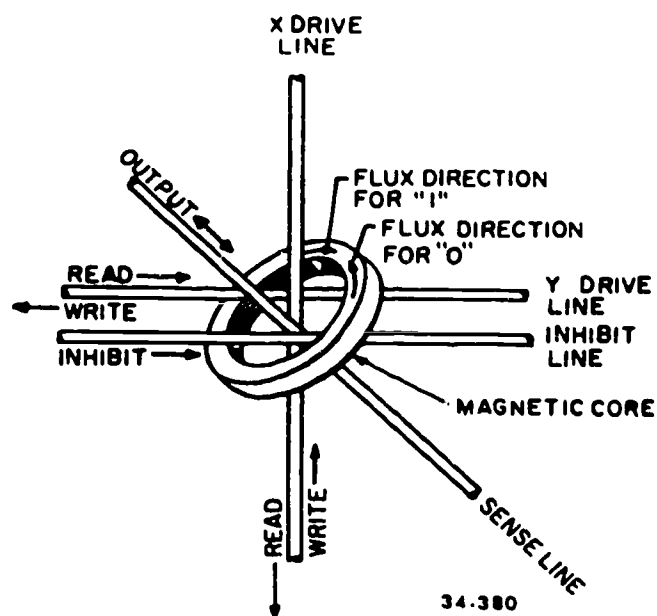
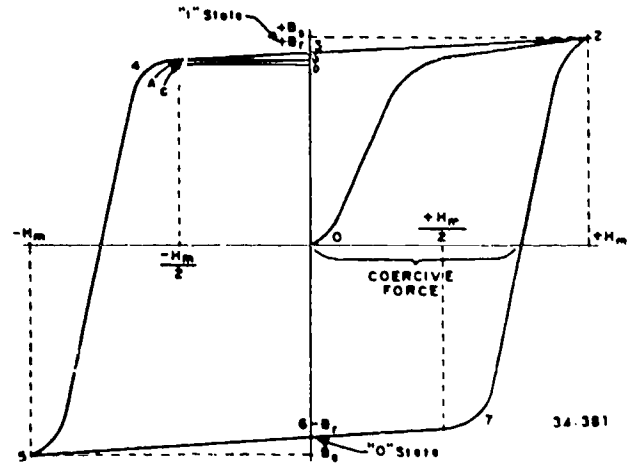
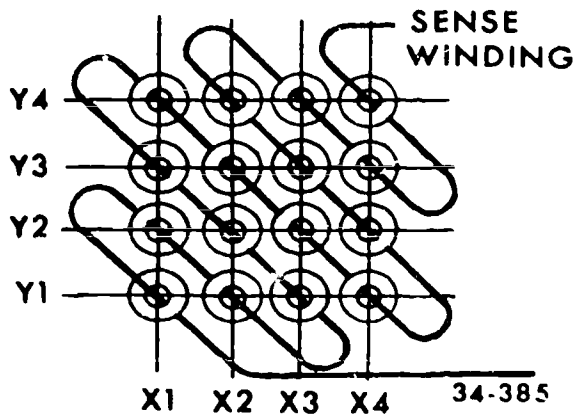

Figure 3-3. Magnetic core showing X, Y, inhibit, and sense lines.
Figure 3-4. Hysteresis loop.
Figure 3-8. Sense winding of a core array.
In magnetic core memories, each data bit is stored in the magnetic field of a small, ring-shaped magnetic core (fig. 3-3). Magnetic cores generally have four wires running through them. Two wires are used for read selection. (These same two wires are used for write by reversing the direction of current flow.) An inhibit wire prevents writing a 1 when a 0 is to be written, and the sense wire picks up the signal voltage generated by shifting a core from 1 to 0 in a read cycle.
Magnetization Process. The state of magnetism of a core is explained using a hysteresis loop shown in figure 3-4. The points defined on the loop illustrate the magnetic flux density in gauss (B) as a function of the field (induced by the current) in oersteds (H). In this diagram it is assumed that all magnetism has been removed from the core. This condition is assumed merely to show how a magnetizing force is established in the core and how the core magnetism enters into its hysteresis loop. Actually, this core and all magnetic material exist in nature in some state of magnetization as a result of the influence of the earth's magnetic field. The 0 point in figure 3-4 represents a condition of 0-ampere turns in oersteds (H) and 0 core magnetization in gauss (B). If a current pulse is conducted through the drive line (fig. 3-3) with an intensity that
produces a magnetomotive force of a magnitude $+H_m$ (fig. 3-4), the core magnetization will change (saturate) as shown along the magnetization curve defined by the numbers 0, 1, and 2. This action establishes a flux density in gauss (B) in the core of a magnitude indicated here as $+B_s$.
60 or more) of these cores are arranged so that each is magnetized to store either the 0 or 1 state. The magnetic state of the combined cores represents a computer word. To apply more than one drive current and to sense or inhibit changes in the core condition, we must use several core windings (drive lines). These windings are illustrated in figure 3-3.
Any change in the flux of a core induces a voltage in all wires passing through the core. Hence, the induced voltage on the sense line (winding) is sampled to see if the core switches from $+B_r$ (fig. 3-4) to $-B_r$ when $-H_m$ is applied. If a large induced voltage is sensed (over, say, 50 millivolts), the core was in the 1 state and has been switched from $+B_r$ to $-B_r$ (the 0 state). Because the contents of the core are determined in this manner, the current pulse corresponding to magnetomotive force (MMF) $-H_m$ is called a "read pulse." (The read pulse, when applied to a selected core, drives the core from the 1 to the 0 condition.) Because the core condition stored before sensing is destroyed during readout, a memory utilizing this type of magnetic core storage element is referred to as a destructive-readout memory. If the data that was stored is to be used again, a restore (or rewrite) function is initiated to return the core to its original state.
Refer to figure 3-4 for questions 1 through 4.
To read the data (1 or 0) that has been stored in a core requires a sense winding. This winding passes through the center of each core, as shown in figure 3-8. Only one core in an array may be switched at a time. Therefore, when a read-current pulse is applied to wires X3 and Y2 (that is, opposite to the write currents), the magnetic flux or core X3-Y2 changes direction (if the core is storing a 1), thereby inducing a voltage in the sense winding. Any core may be read the same way by applying a read pulse to the associated X and Y winding of the core.
Consider now that all of the cores on line Y2 (fig. 3-8) are storing a 1 and that the core at the junction of Y2 and X3 is being read. When read-currents (half-currents) are applied on lines X3 and Y2, all of the cores on line Y2 are disturbed. This disturbance causes
Two types of pulses minimize the effects of noise from adjacent cores during readout: disturb and strobe pulses. The disturb pulse (equivalent to a half-read) is a drive signal of an amplitude (coercive force) $\frac{-H_m}{2}$, which is applied to a core immediately after a 1 state is written in the core. The disturb pulse (fig. 3-4) drives the core magnetism from +B, (the state at which the magnetism is established in the core at the time the 1 is stored) to a point A on the hysteresis loop. When the $\frac{-H_m}{2}$ pulse is removed, the core magnetism returns to point B. A subsequent half-read pulse drives the core to point C and, when removed, permits the magnetism to be established at D. (This could represent the induced noise from a half-selected core where a selected core is being read.) Note that the change in core magnetism from point B to point D is less than the amount of change when the first half-read pulse is applied. Consequently, less noise will be induced in the sense winding from adjacent cores in figure 3-8 if a disturb pulse is applied on the line before reading the core at the Y2-X3 junction.